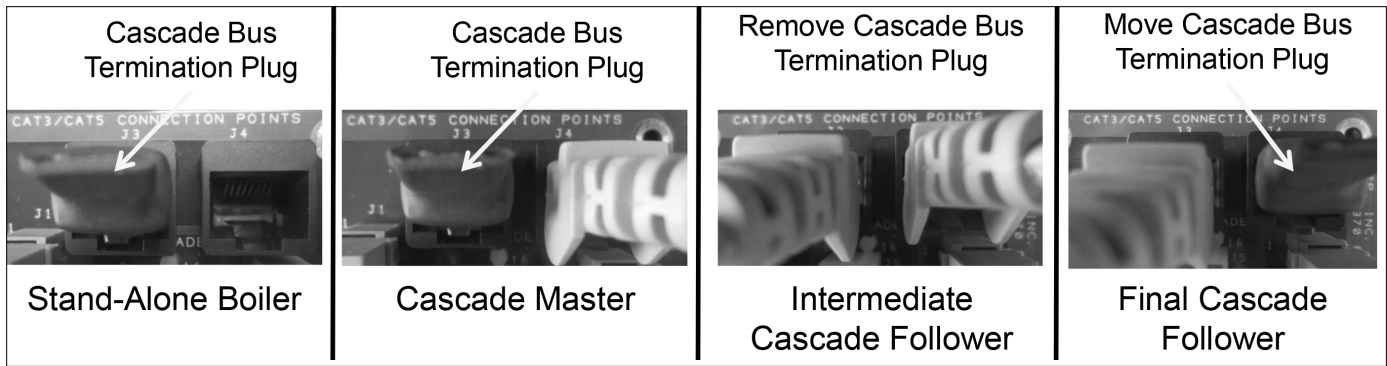

Figure 40 - Cascade Termination Plug Detail
1. A termination plug is included in the CAT 3 / CAT 5 Bus Connection Point, labeled J6 in Figure 40. The purpose of this plug is to stabilize communication between multiple VWHs and reduce electrical "noise". See Figure 40 for Cascade Bus Termination Plug installation detail. **DO NOT REMOVE THIS PLUG!** Doing so will affect VWH operation and void warranty.
**NOTE:** It is important that the termination plug in multiple VWHs (cascaded units) be installed as depicted in Figure 40. Leave the plug installed in the J6 port on the Master VWH. Remove the plug on intermediate Follower VWHs. Move the plug to the J7 port on the final Follower VWH.
**NOTE:** All termination plugs must be installed as described in Figure 40 to ensure proper cascade operation.